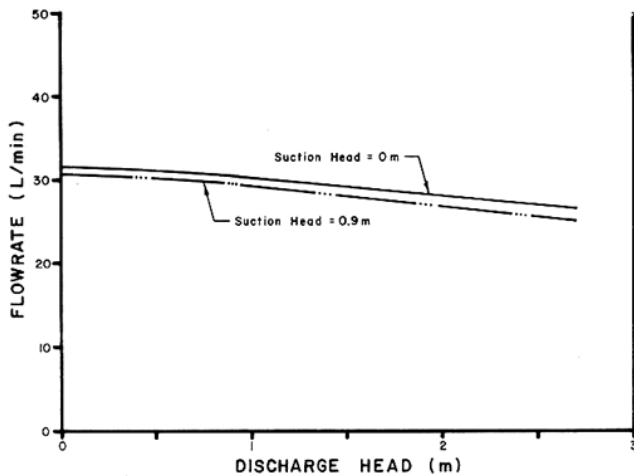

FIGURE 2. Pump Performance Characteristics with Diesel Fuel when Powered with Fully Charged 12 Volt Battery.
**Flowrates:** Pump performance characteristics with diesel fuel at two suction heads over a typical range of discharge heads are given in FIGURE 2. Suction head is the distance the fuel level is below the pump and discharge head is the height the outlet nozzle is held above the pump. The suction heads of 0 and 0.9 m (0 and 3 ft) correspond to full and empty levels of typical farm truck fuel storage tanks. The flowrates in FIGURE 2 are for a pump powered with a fully charged 12 volt battery.